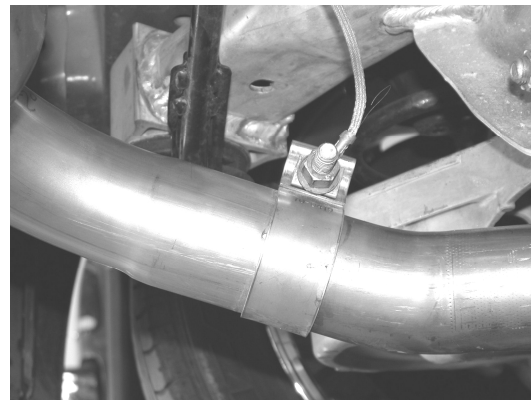

Figure 11
6. Completely remove bolt from clamp and place the ground strap over the threaded portion as shown in figure 11.